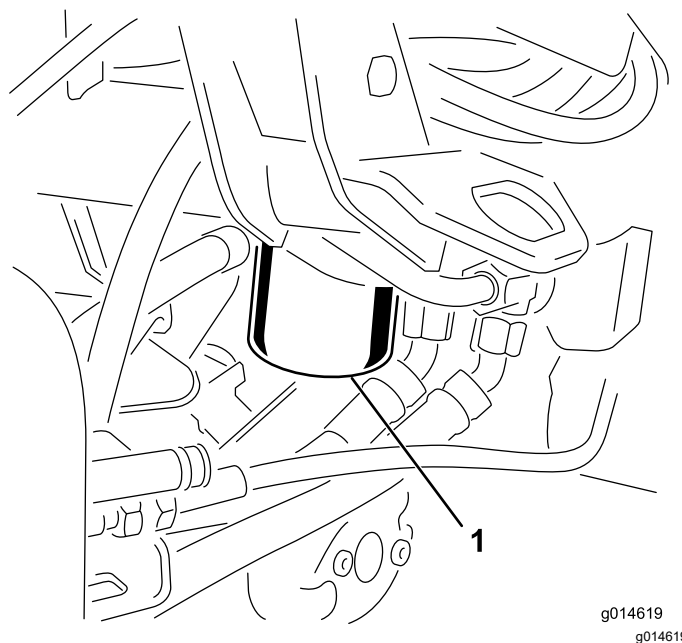

Figure 44
1. Clean the area around the filter mounting area (Figure 44). Place a drain pan under the filter and remove the filter.